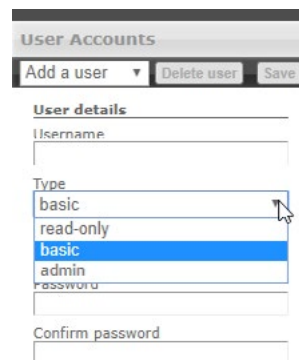

Figure 06: User Type
3. Choose the desired User **Type** from the drop down menu (Figure 06).